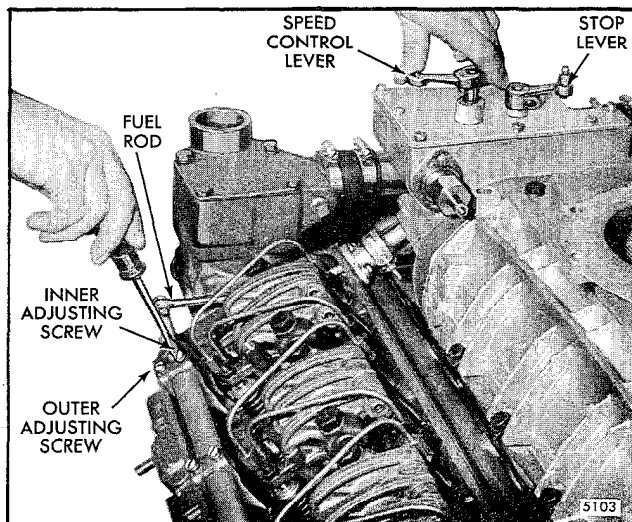

Fig. 2 - Positioning No. 1 Injector Rack Control Lever (Two Screw Assembly)
b. On the former two screw injector control tubes, turn the inner adjusting screw of the No. 1L injector rack control lever down until a slight movement in the control tube lever is observed or a step-up in effort to turn the screwdriver is noted (Fig. 2). This will place the No. 1L injector rack in the full-fuel position. Turn down the outer adjusting screw until it bottoms lightly on the injector control tube. Then alternately tighten both the inner and outer adjusting screws.